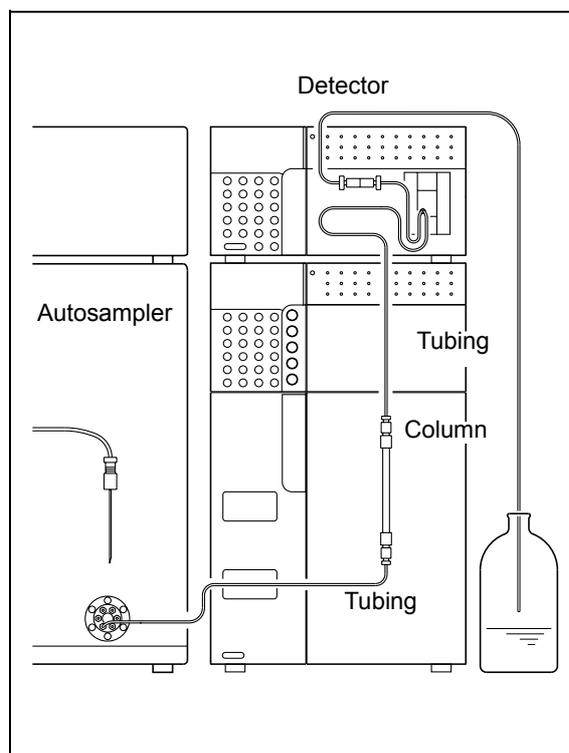

Fig. 7.9
- 4 When cleaning is finished, pour mobile phase (mixture of methanol and water (9/1, (v/v))) into the reservoir bottle, and reconnect the column with the LC system ("Fig. 7.9"). Pour methanol into the reservoir bottle as a rinse liquid to purge the autosampler.